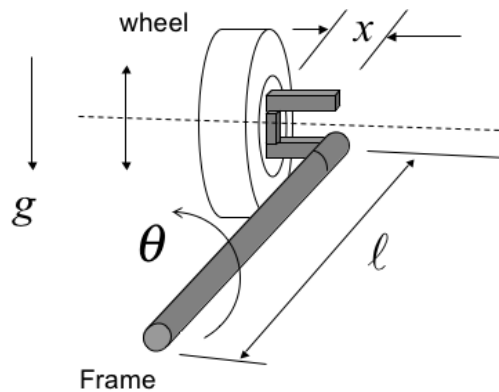

Figure P1.45
- 1.45** The front suspension of some cars contains a torsion rod as illustrated in Figure P1.45 to improve the car's handling. (a) Compute the frequency of vibration of the wheel assembly given that the torsional stiffness is 2000 N m/rad and the wheel assembly has a mass of 38 kg. Take the distance $x = 0.26$ m. (b) Sometimes owners put different wheels and tires on a car to enhance the appearance or performance. Suppose a thinner tire is put on with a larger wheel raising the mass to 45 kg. What effect does this have on the frequency?